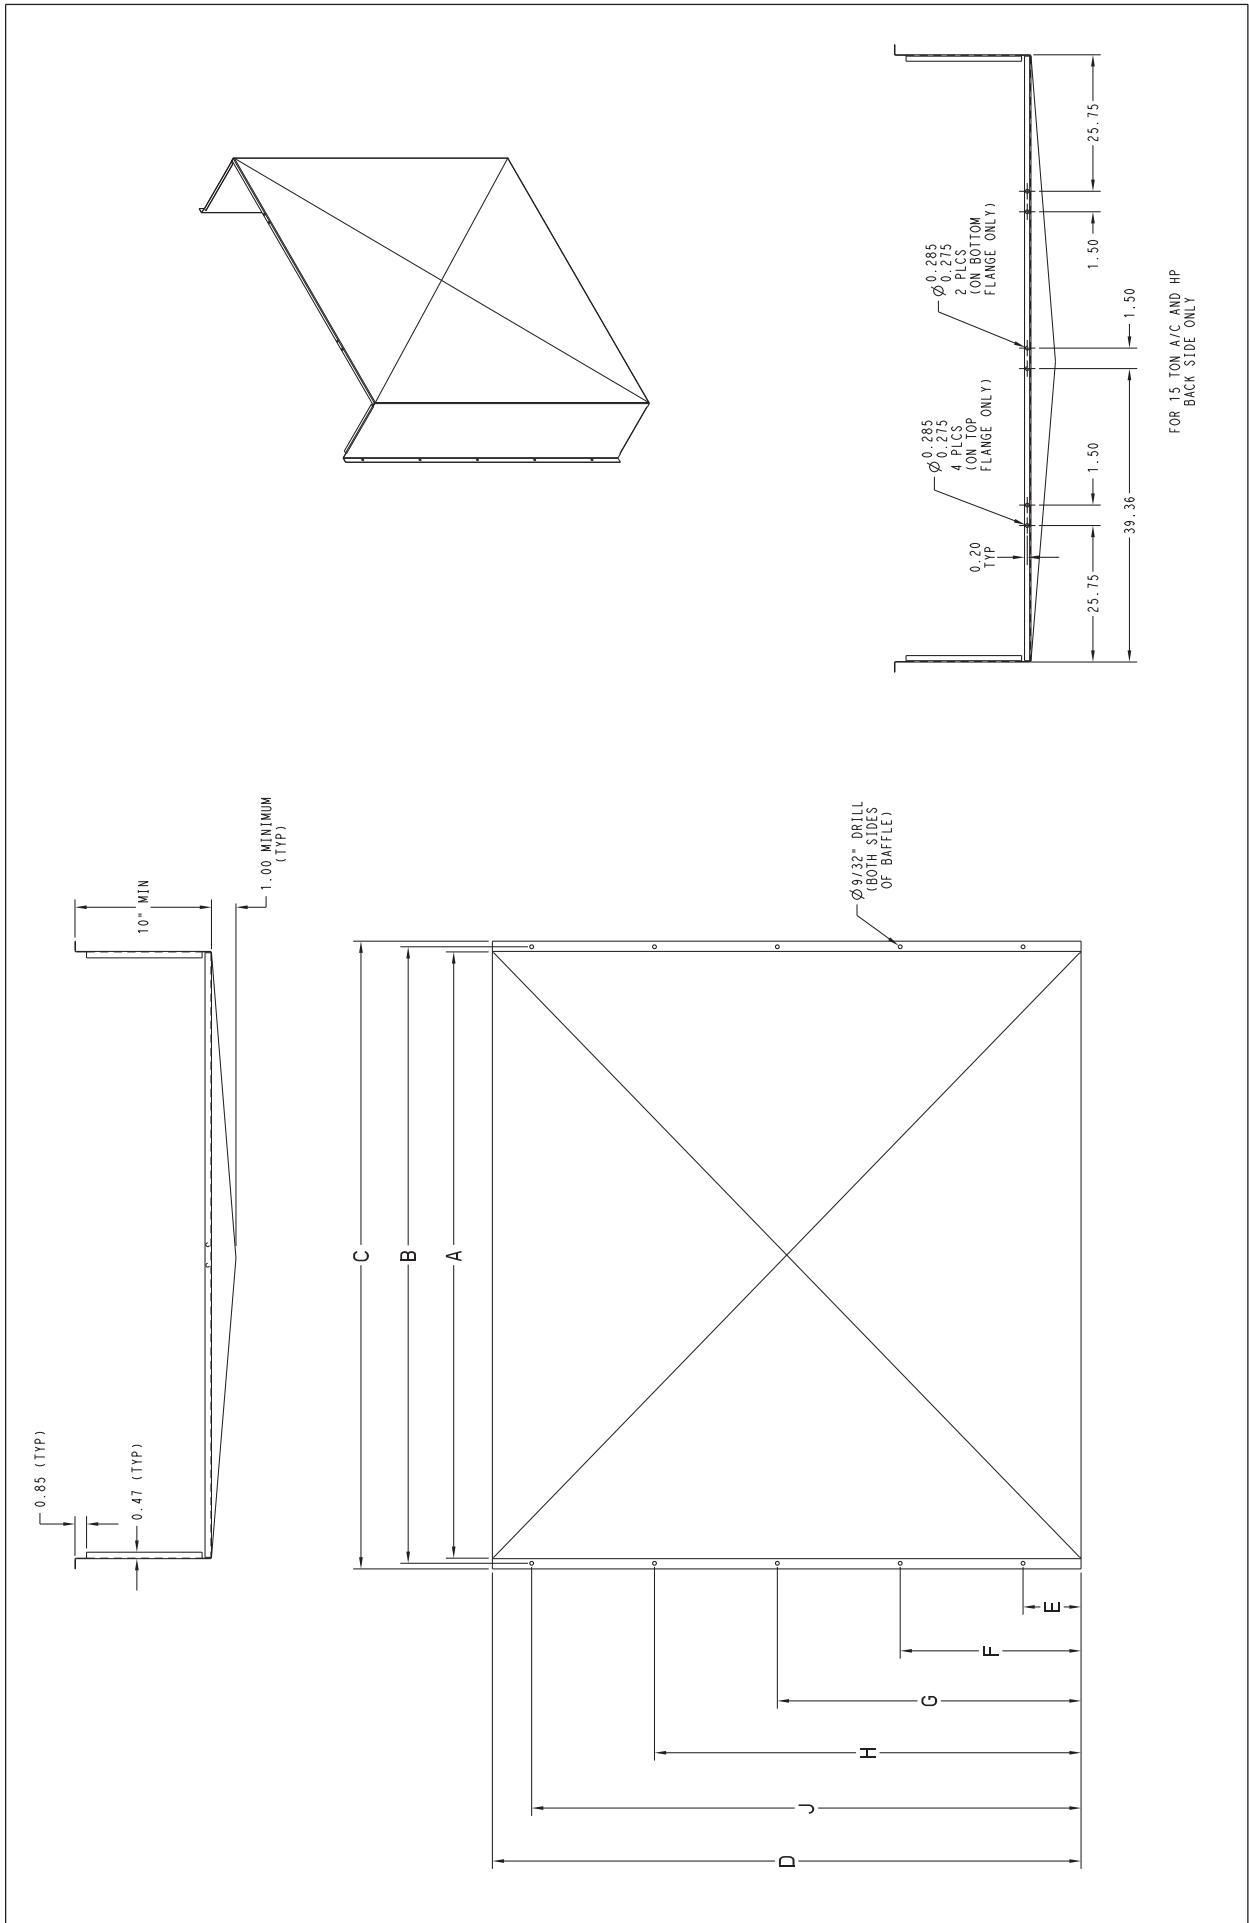
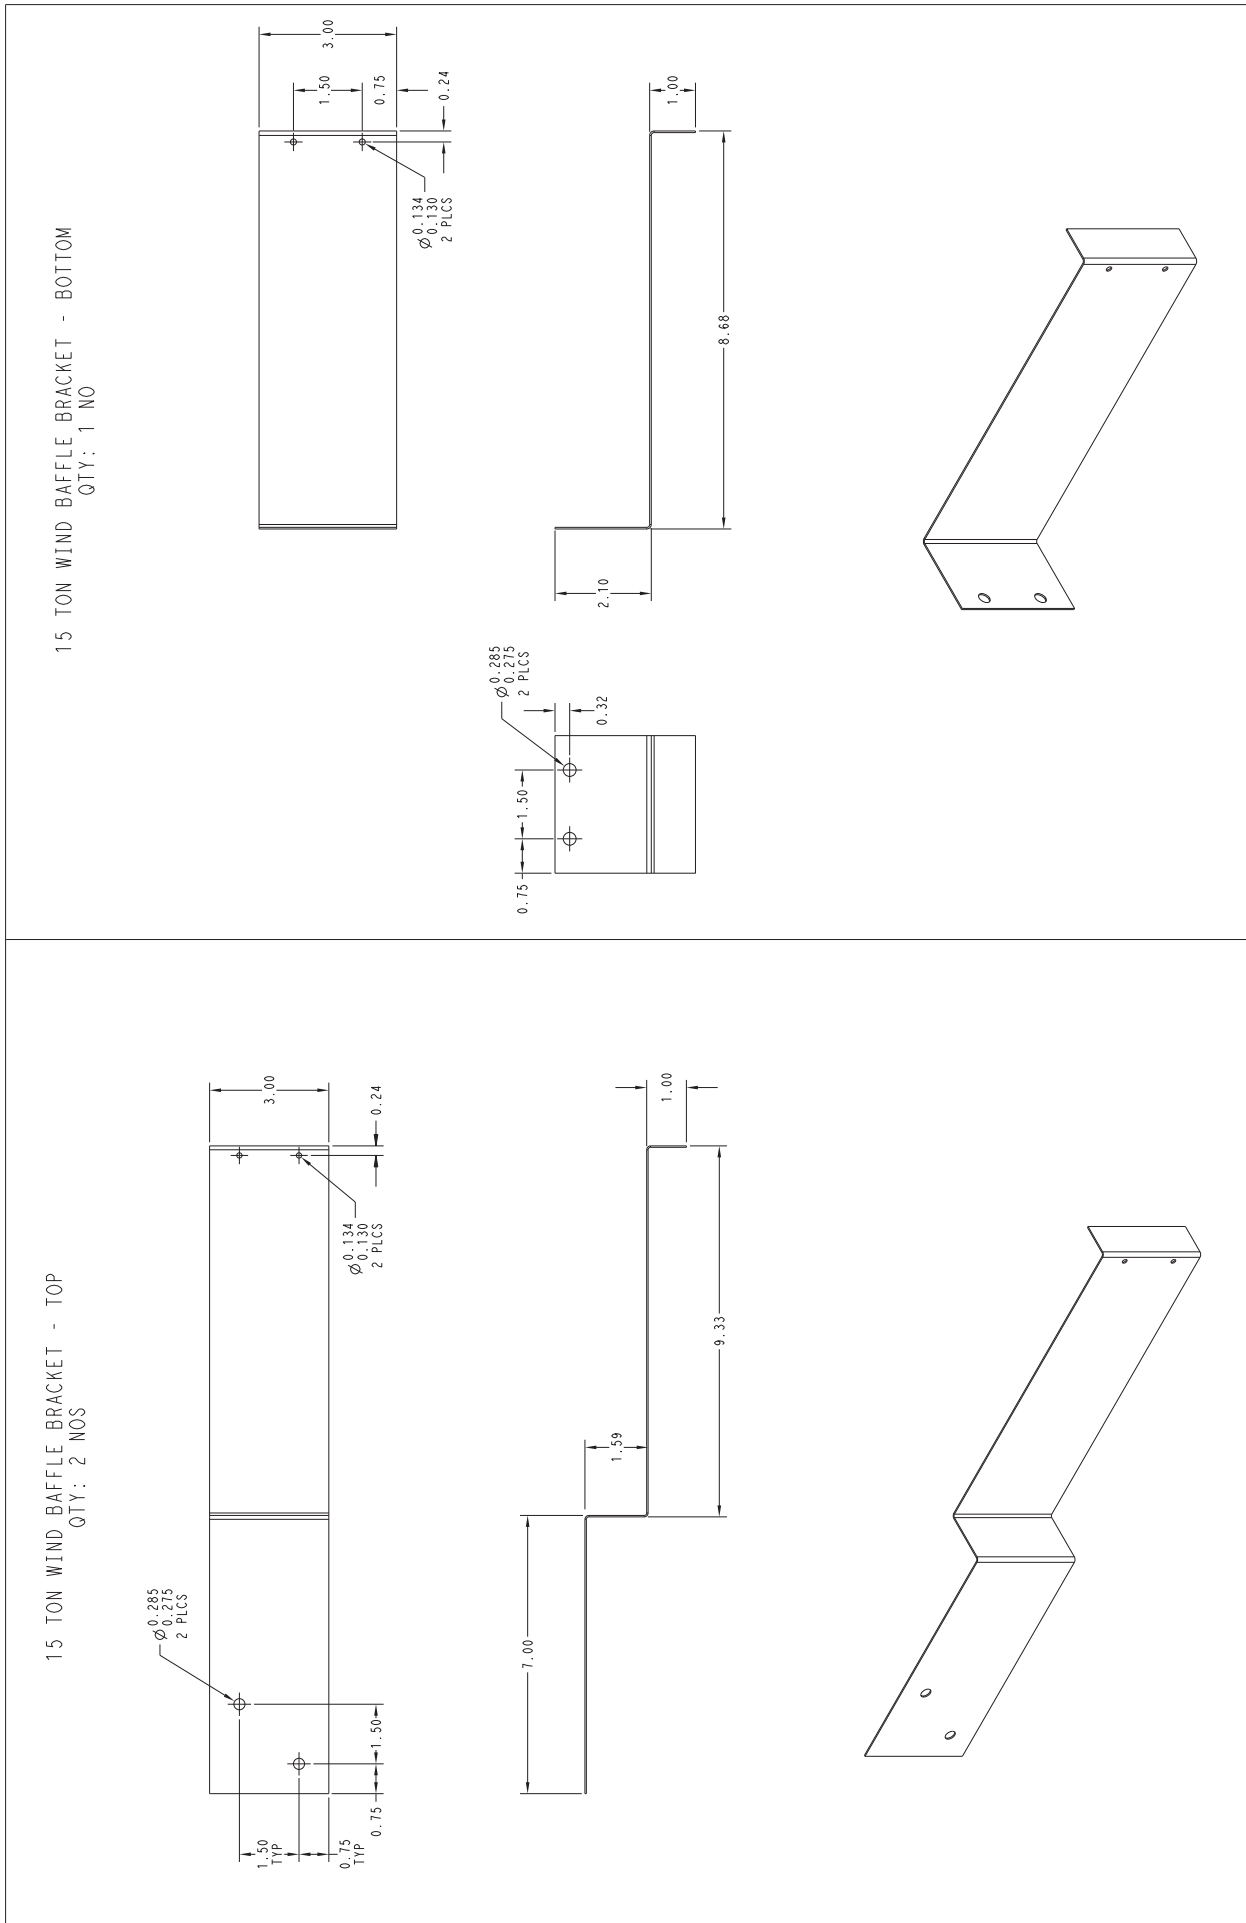

Fig. 51 - Wind Baffles - Fabrication
Fig. 52 - 15 Ton Wind Baffle Brackets - Fabrication
- Use 20-gauge sheet metal to fabricate wind baffles (see Fig. 51 and Table 15) and mounting brackets (see Fig. 52).